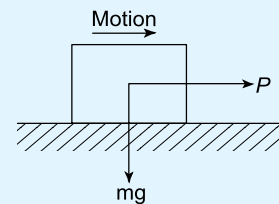

Figure 17.13
1. A mass of 40 kg rests on a flat horizontal surface as shown in Figure 17.13. If the coefficient of friction $\mu = 0.2$, determine the minimum value of a horizontal force P which will just cause it to move.